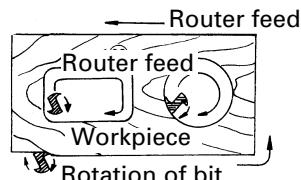

Fig. 20
(2) The bit rotates clockwise (arrow direction indicated on the base). To obtain maximum cutting effectiveness, feed the router in conformance with the feed directions shown in Fig. 20.